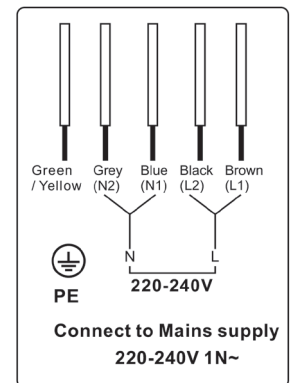

fig.1
- The "blue" "Grey" neutral wire must be connected to the terminal marked with letter (N) - the "black" "brown" live wire (L) must be connected to the terminal marked with letter (L) (220-240V 1N~), see Fig.1.
- This appliance must be wired into a 32A double pole switched fused spur outlet, having 3 mm contact separation and placed in an easily accessible position adjacent to the appliance. It should not be located above the appliance and no more than 1.25m away from it. See Fig.1.
- The "blue" "grey" neutral wire must be connected to the terminal marked with letter (N) - the "Black" "brown" live wire (L) must be connected to the terminal marked with letter (L) (220-240V 1N~). see Fig.1.